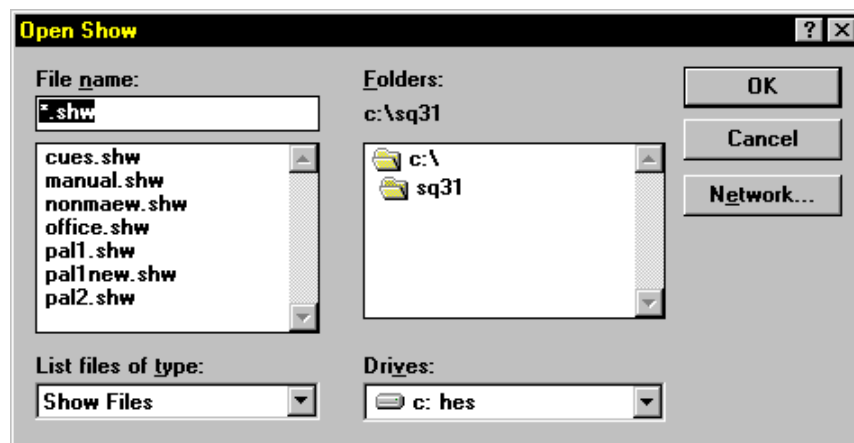

Figure 9.4. Open Show Dialogue Box
2. Press the <STORE> key in the MEMORY key group. If the Show has not been previously saved, this will bring up the **Save Show As...** dialogue box. Refer to Figure 9.4. Alternately, select **Save** from the **File** drop-down menu.
2. Press the <RECALL> key in the MEMORY key group to bring up the **Open Show** dialog box. Refer to Figure 9.4. Alternately, select **Recall** from the **Memory** drop-down menu or simply select **Open** from the **File** drop-down menu.